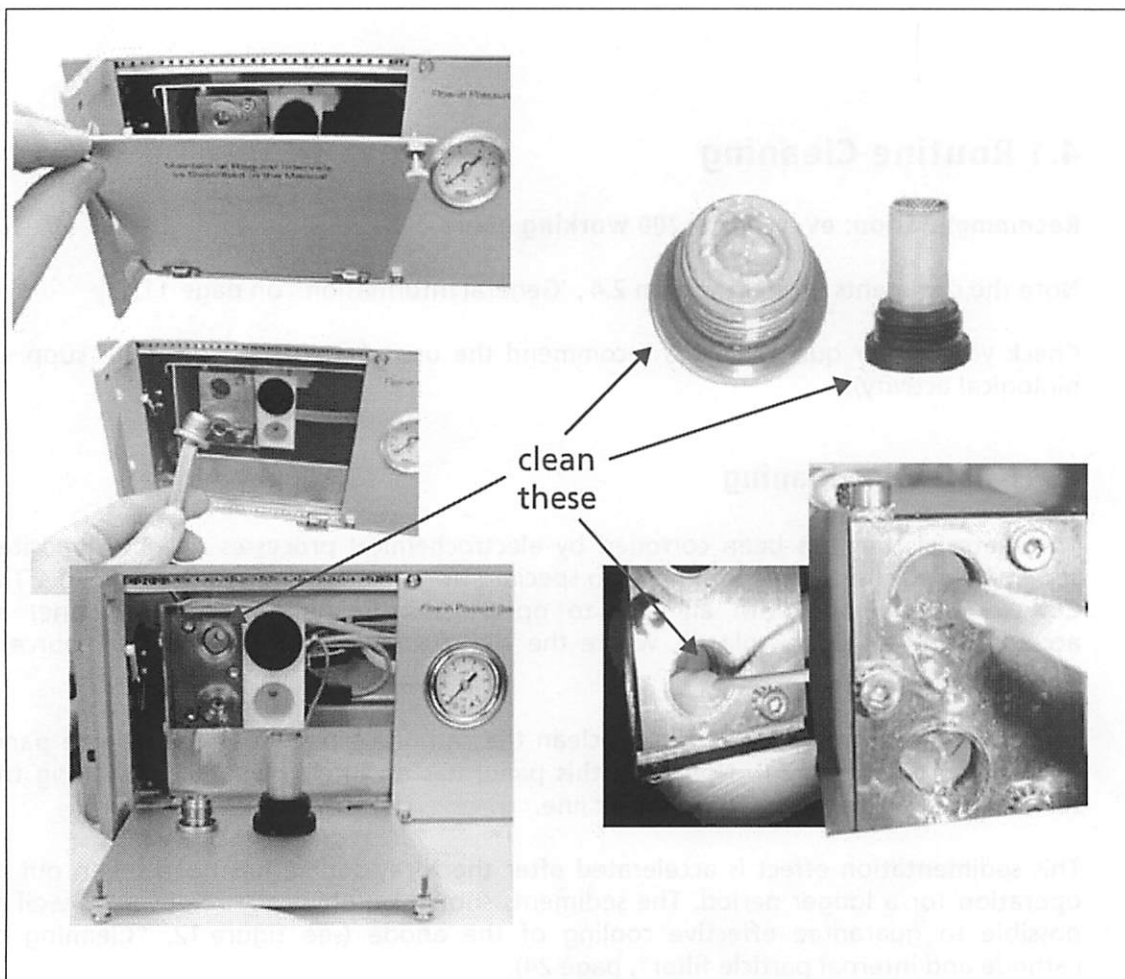

Figure 12 Cleaning of cathode and internal particle filter
Two threaded bushings allow one to clean the cathode block via the front side panel (see figure 12, page 24). Note that this panel has an interlock switch! Opening the service panel activates the HV interlock line.
This sedimentation effect is accelerated after the X-ray source has been taken out of operation for a longer period. The sediments should be physically removed as well as possible to guarantee effective cooling of the anode (see figure 12, "Cleaning of cathode and internal particle filter", page 24).
- Remove the two cathode socket head cap screws and the two internal particle filter (see figure 12, page 24)!